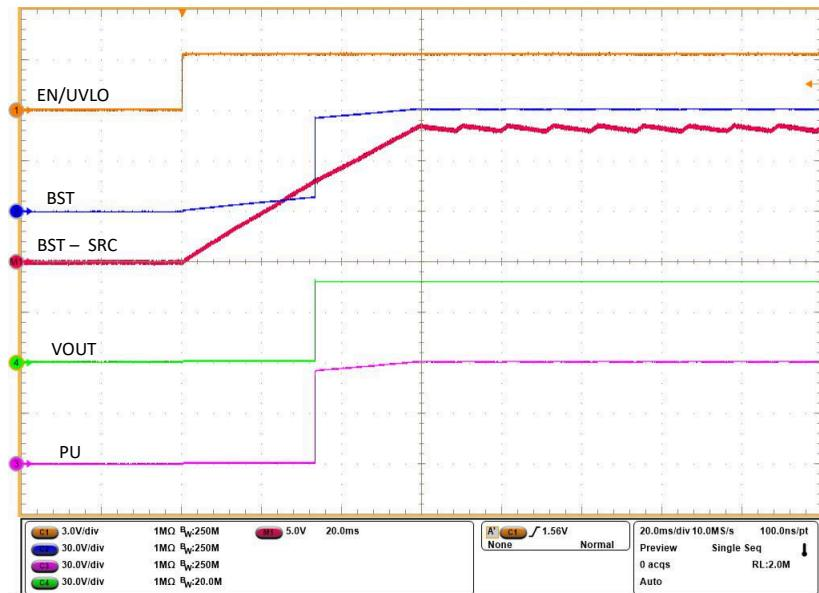

Figure 5-3. Start-Up Profile of Bootstrap Voltage for INP = HIGH
7. Now again, enable the EN/UVLO to HIGH to observe the start-up profile of BST, GATE, and SRC when INP = HIGH as shown in Figure 5-3.